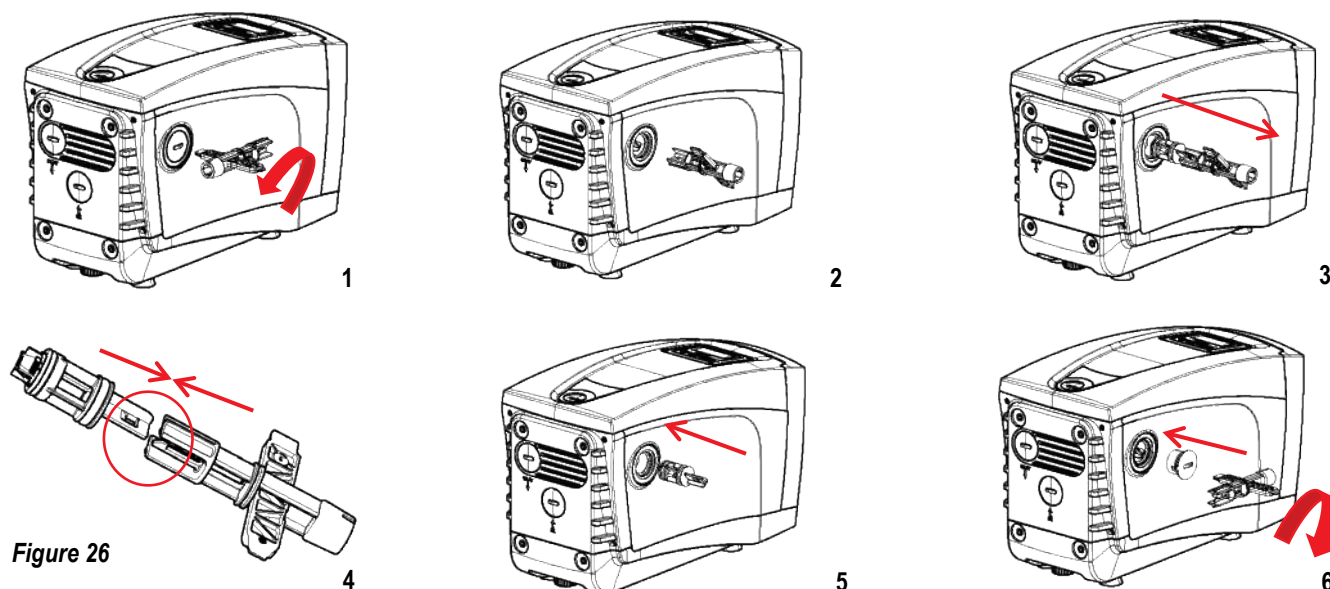

Figure 26
The system has an integrated non-return valve which is necessary for correct operation. The presence of solid bodies or sand in the water could cause malfunctioning of the valve and therefore of the system. Although it is recommended to use fresh water and eventually fit filters on input, if you notice abnormal operation of the non-return valve it can be extracted from the system and cleaned and/or replaced by proceeding as follows: (Fig.26):
1. remove the motor shaft access cap as in Fig.26;